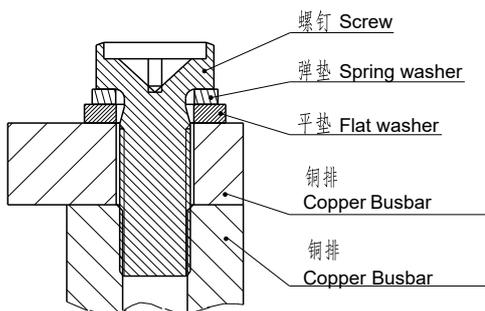

图1(Fig1)
- 当产品使用1个及多个导电铜排连接时，请确保导电铜排与触点端面紧密贴合（多个铜排需确保大电流的导电铜排最贴近触点端面，小电流的导电铜排其次），然后是平垫圈、弹簧垫圈、螺母。不正确的连接顺序可能造成严重过热，参考下图1：
When the product is connected with one or more conductive copper bars, please ensure that the conductive copper bars closely fit the contact terminal surface (The conductive copper bars with high current must be closest to the contact terminal surface if there are multiple copper bars and then conductive busbars with low current), followed by flat washers, spring washers and screws.Incorrect connection sequence perhaps give rise to severe overheating. Refer to Figure 1 as follows: